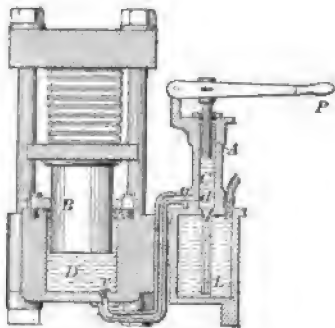

FIG. 46. — Hydraulic press.
53. Applications of the hydraulic press. This device of Pascal gives us an easy way of exerting enormous forces, such as are needed in baling paper, cotton, etc., in punching holes through steel plates, and for extracting oil out of seeds. The commercial machine (Fig. 46) is exactly like that described by Pascal except that there is usually a check valve (*v*) between the small piston and the big one, and the small piston is arranged to work like a pump, with a valve (*d*) at the bottom for admitting more oil. Often the small piston is forced down by a lever. The method of operation is simple. On the upstroke of the pump piston, the valve at the bottom of the pump opens and oil flows in from the reservoir.